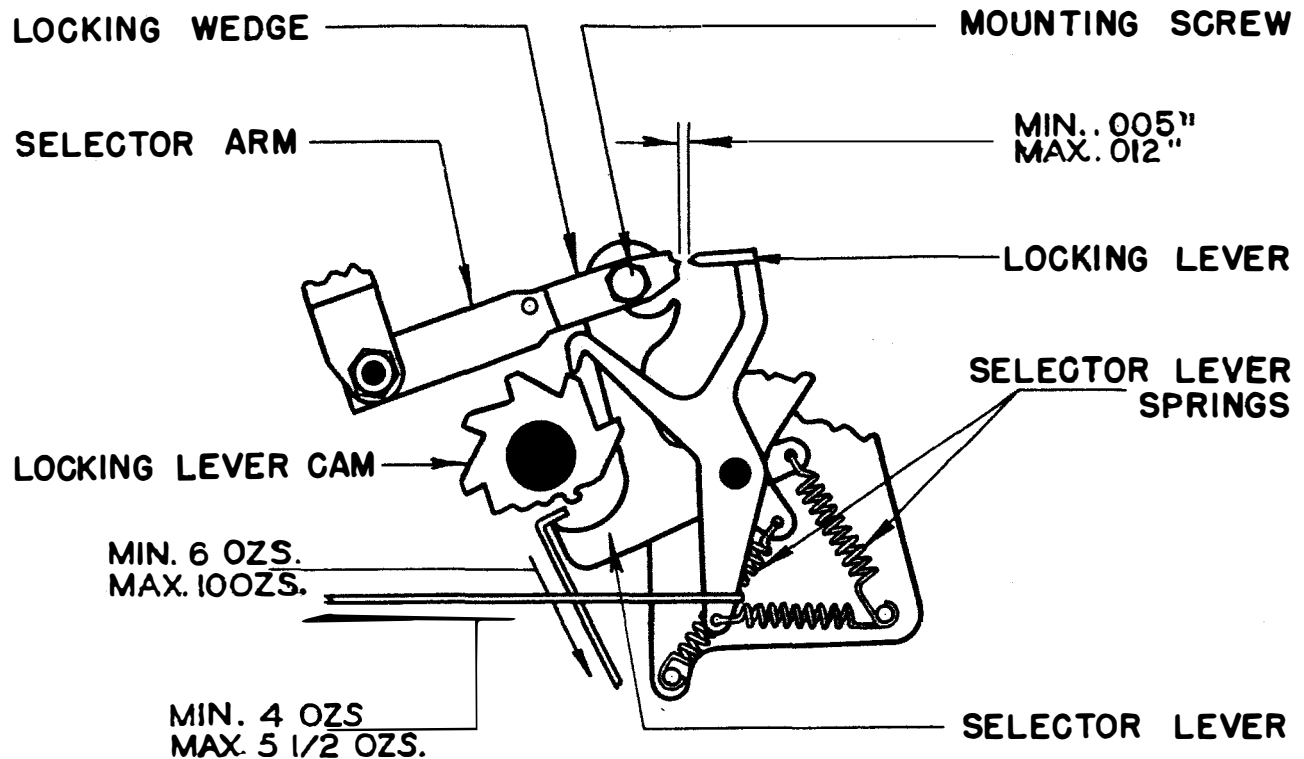
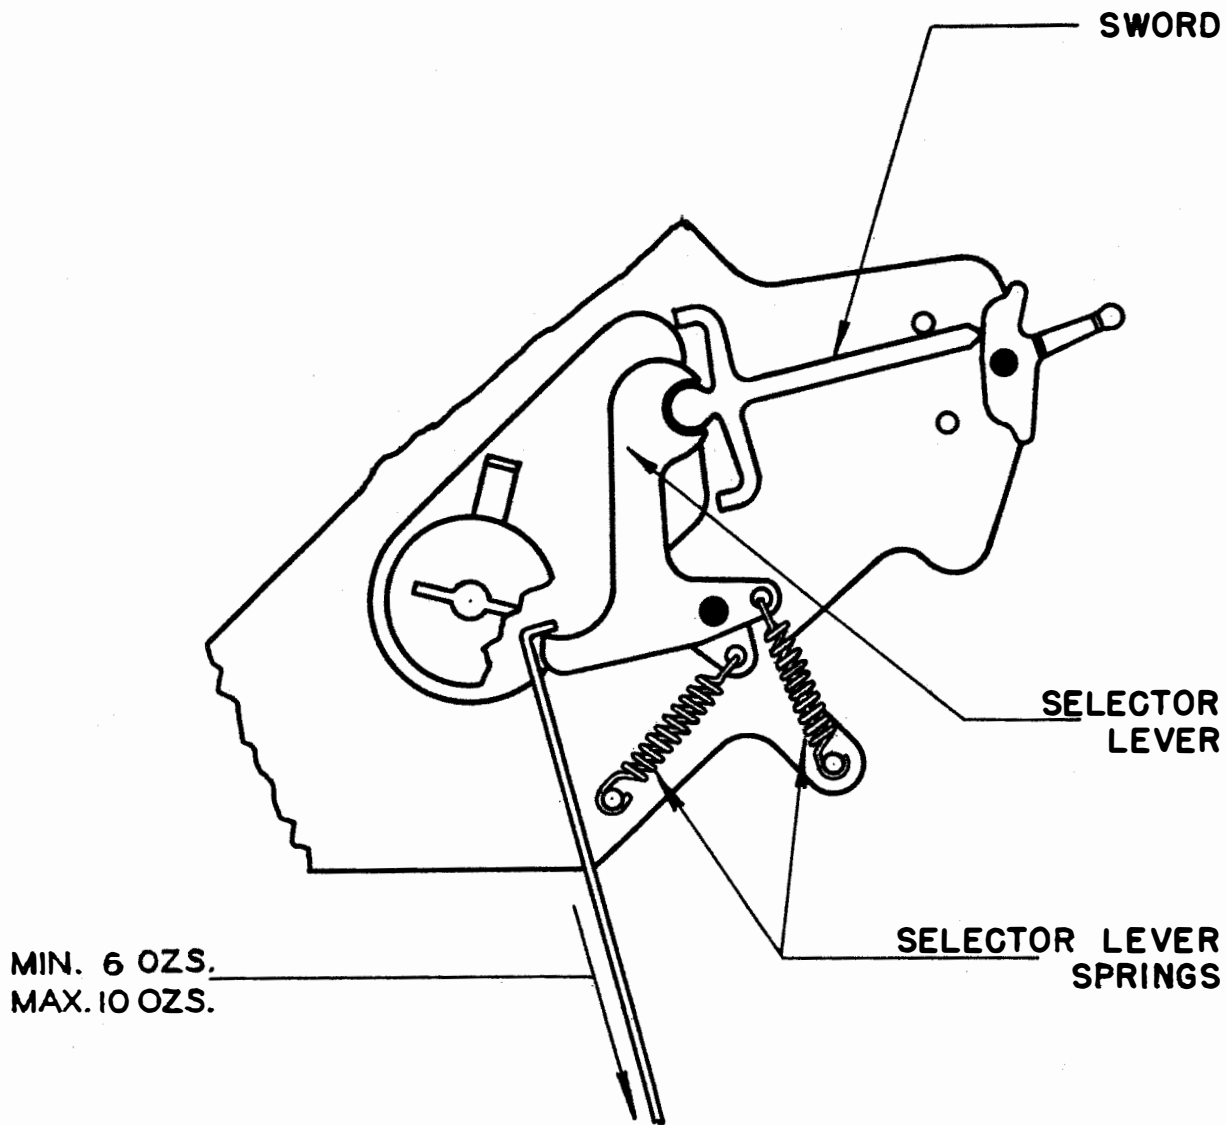

Figure 2
Figure 3
extreme forward position (main shaft mounted horizontally) or highest position (main shaft mounted vertically) and the swords moved manually to the spacing position, hook a scale over the end of a selector lever at the selector cam sleeve and pull radially to the main shaft. It should require minimum 6 ounces, maximum 10 ounces as indicated in Figure 2 (holding magnet) and Figure 3 (pulling magnet), to start the lever moving. Check all selector levers in the same manner.
2.09 Locking Wedge (holding magnet) should clear the locking lever by minimum 0.005 inch, maximum 0.012 inch when the locking lever is resting on the long high part of its cam and the end of the wedge is held in line with the lever. (See Figure 2.)
2.10 Locking-lever Spring (holding magnet) should require minimum 4 ounces, maximum 5-1/2 ounces, as indicated in Figure 2, to start the lever moving away from the high part of its cam.